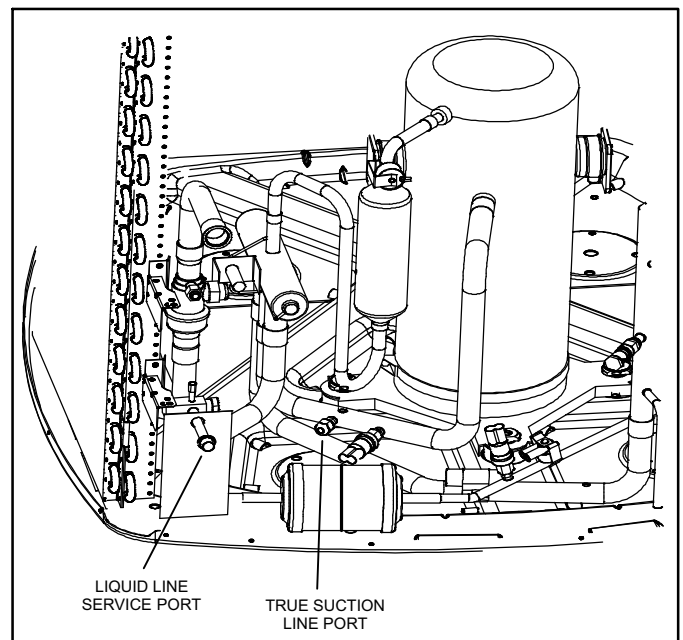

FIGURE 5. Typical Suction Line Port Location
1. Connect manifold gauge set to applicable port as illustrated in figure 5:
- Low pressure gauge to *true suction* line (see figure 5 for location) .